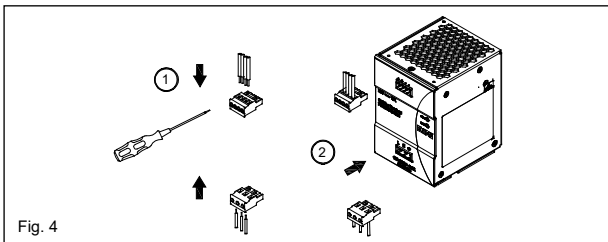

Fig. 4
Caution: Must tighten wire to plug (Fig. 4 (1)) before plugging into the terminal block connection (Fig. 4 (2)). In accordance to EN 60950 and EN/UL 62368, flexible cables require ferrules. Use appropriate copper cables that are designed to sustain operating temperature of 60°C / 75°C or more to fulfill UL requirements.